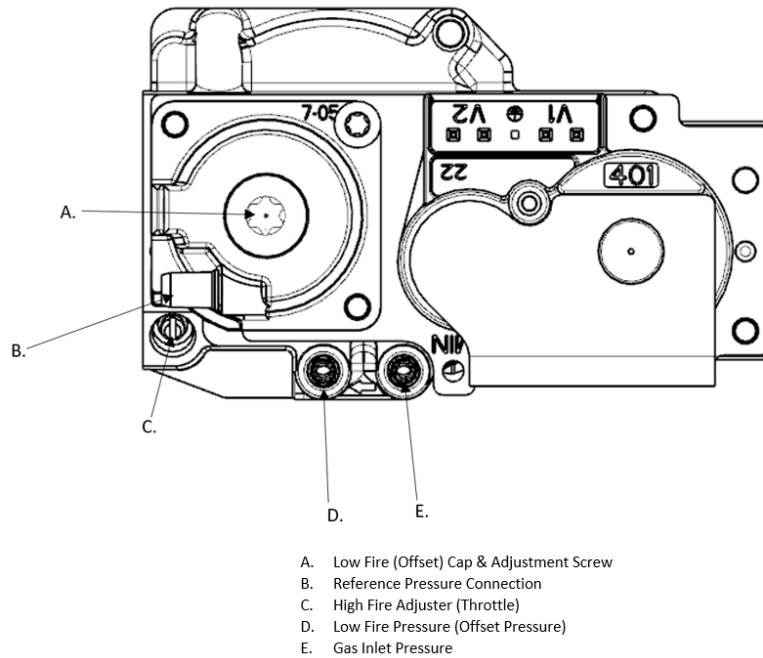

Fig. 6: Throttle Screw Location
6. If the combustion levels during high fire are outside the recommended combustion settings (see Table 1), adjust the THROTTLE SCREW (see Fig. 6) using a flat-blade screwdriver as follows: